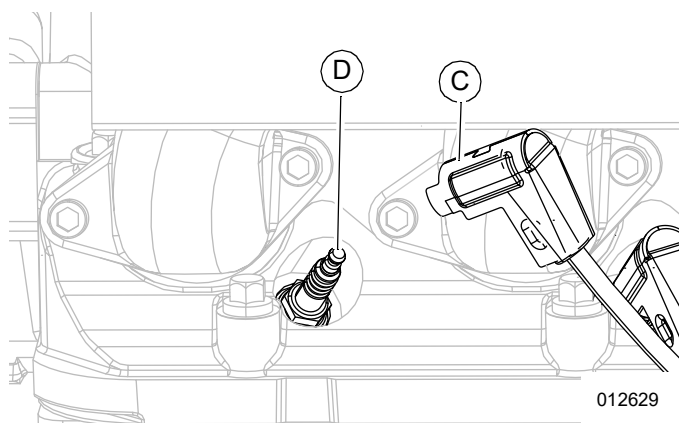

Figure 5-14. Remove Spark Plug Cables
2. See Figure 5-14. Remove spark plug cables (C) from spark plug terminals (D).